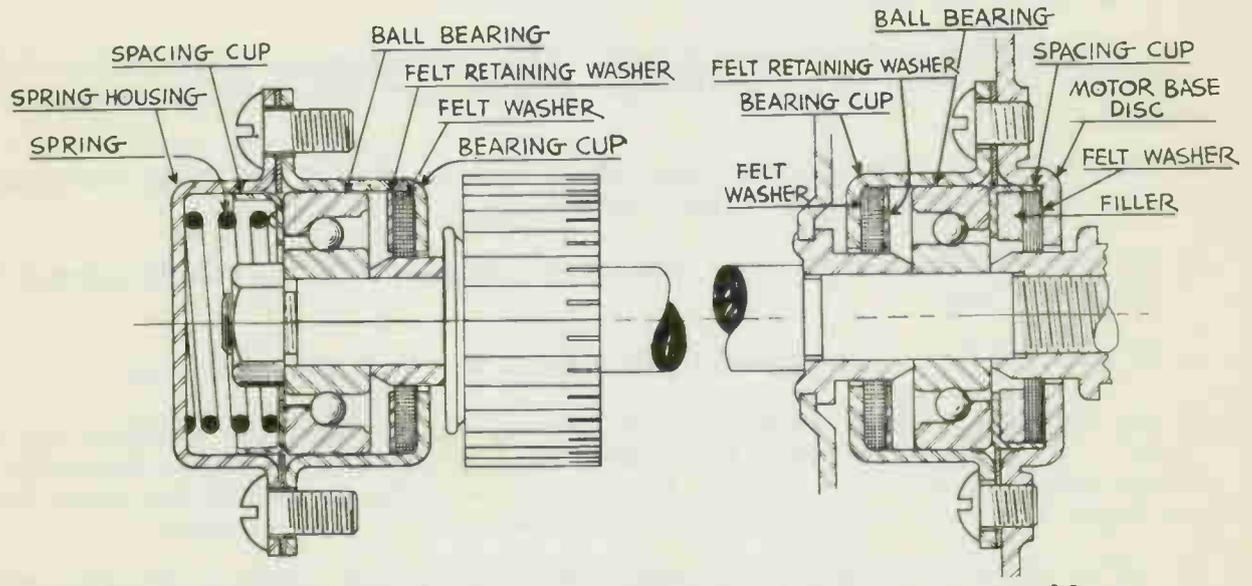

Fig. 6 - Commutator and bearing assembly - Fan end bearing assembly
NOTE: See Figs. 6 & 9 for ball bearing assembly.
- Exception: Ball bearing motors. The ball bearing screw must be removed and the outer bearing race removed before the end plate can be taken off the motor. WATCH ORDER OF PARTS WHEN WORKING ON BALL BEARING MOTORS. See motor check Fig. 6 & 9.